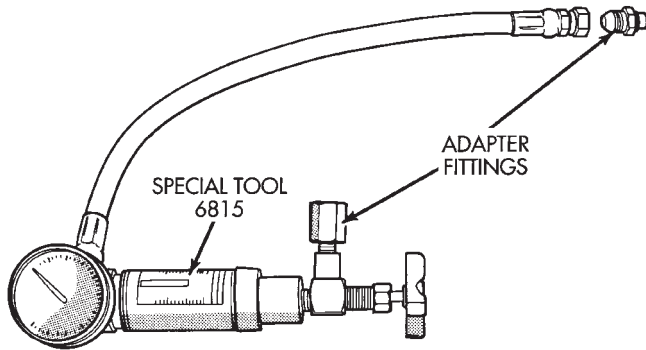

Fig. 1 Pressure Test Gauge
- (1) Check belt tension and adjust as necessary.
- (2) Disconnect high pressure hose at gear or pump. Use a container for dripping fluid.
- (3) Connect Gauge 7617 to both hoses using adapter fitting (Fig. 1). Connect spare pressure hose to gear or pump.